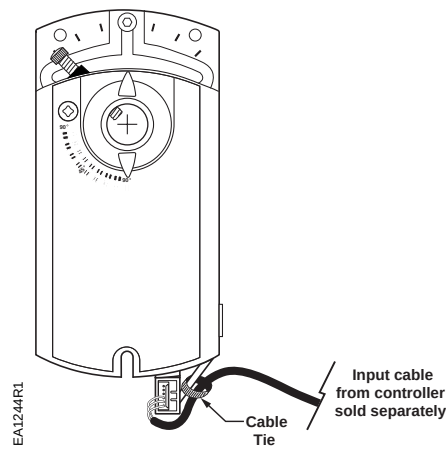

Figure 22. Input Cable Installed in Bottom Three Contacts.
2. Secure the cable to the actuator bracket with a cable tie as shown in Figure 22.